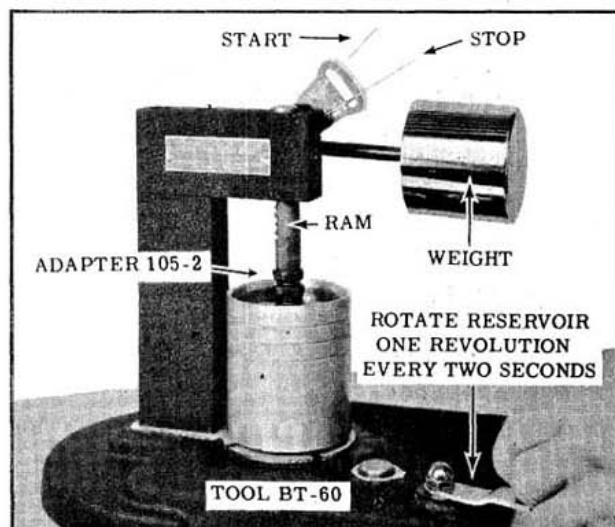

Fig. 3-17 Valve Lifter Bleed Down Test
12. Raise arm, then start test by resting ram on steel ball. Rotate reservoir one revolution every 2 seconds and time the indicator from the start to the stop line. (Fig. 3-17) Allowable tolerance for leak-down rate is 12 to 60 seconds.